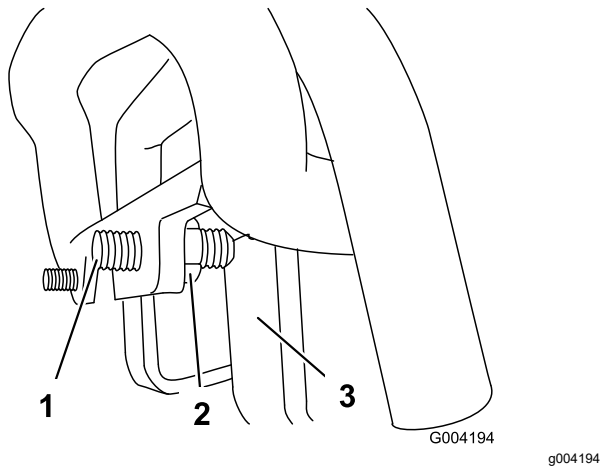

Figure 57
- 3. If the machine veers to the **left**, loosen the **right** jam nut and adjust the tracking set screw on the front of the traction control (Figure 57).
- 4. If the machine veers to the **right**, loosen the **left** jam nut and adjust the tracking set screw on the front of the traction control (Figure 57).